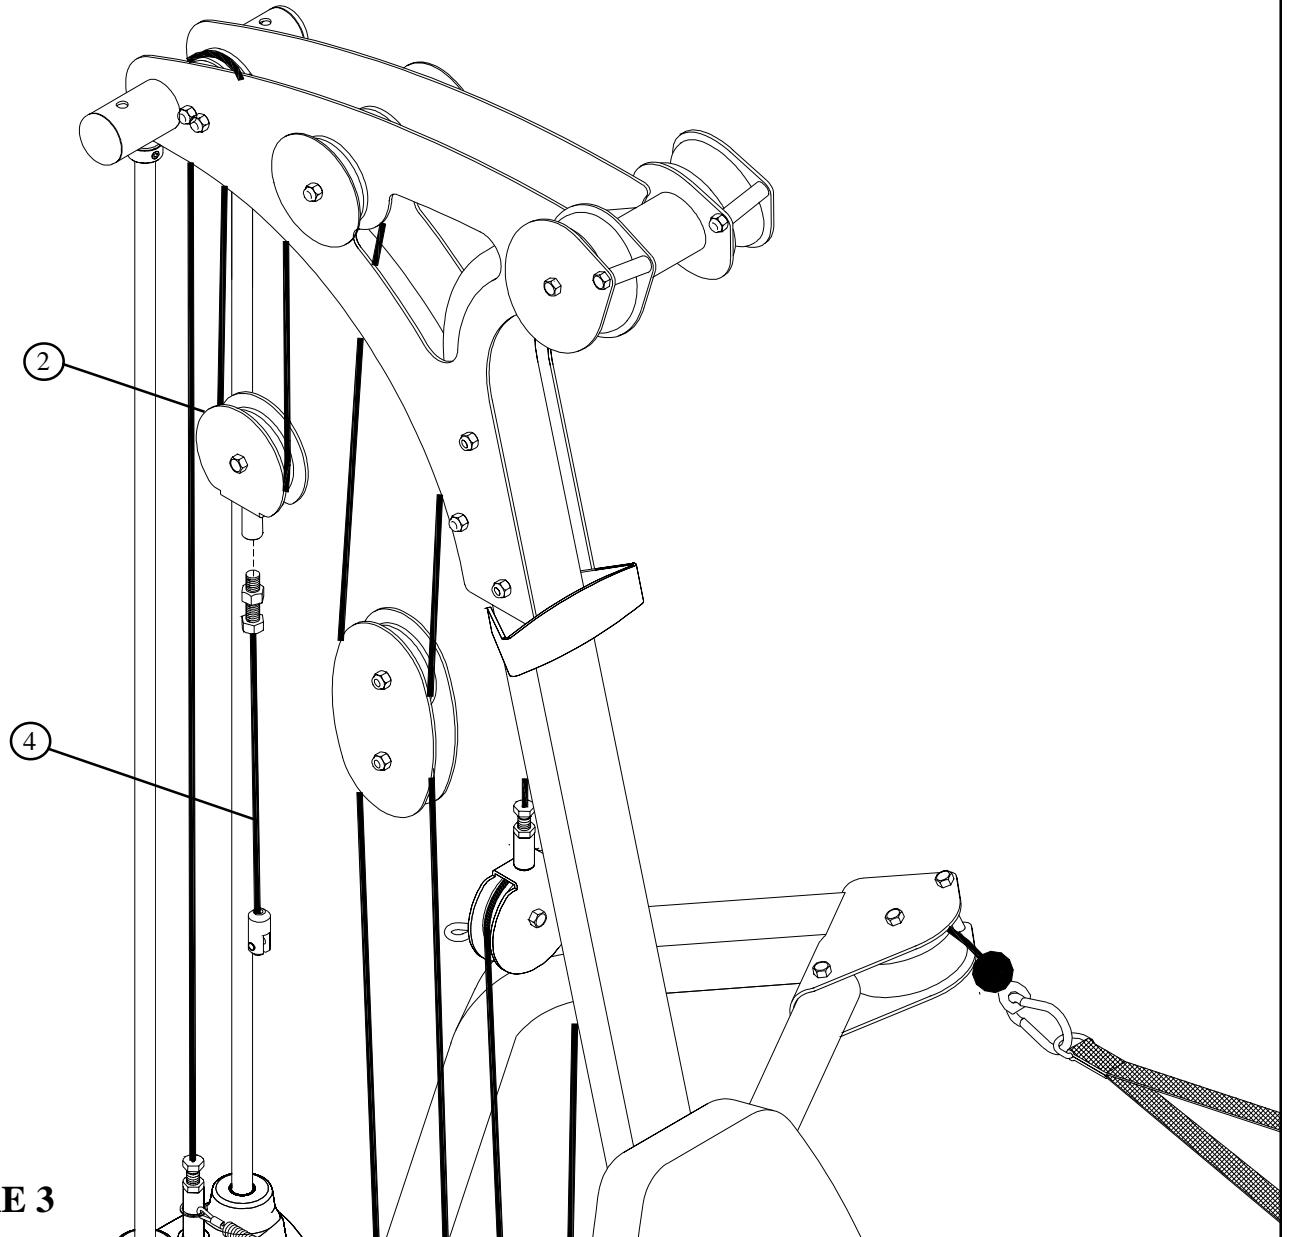

FIGURE 3
- Screw the threaded end of LEG PRESS CABLE (4) to the PULLEY BRACKET (2) as shown in FIGURE 3.